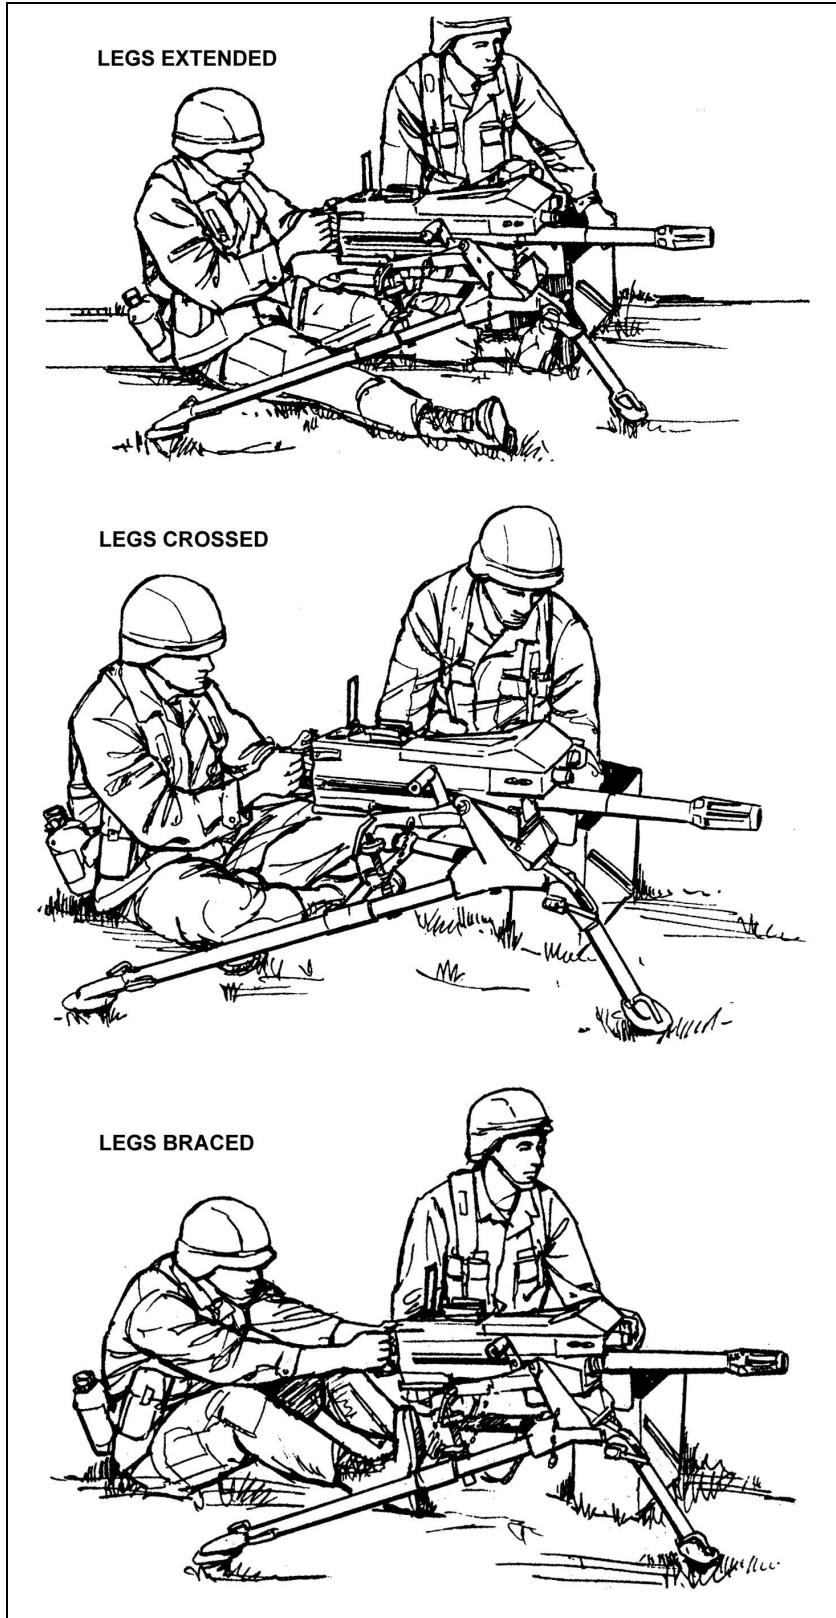

Figure 4-1. Seated firing positions.
a. **Sitting.** When the tripod is used in the low or high position, sit directly behind the gun between the trail legs of the tripod. Extend your legs under the tripod, cross them, or brace your feet on the tripod (Figure 4-1). Place your elbows on the inside of your thighs for support when crossing your legs or bracing your feet on the tripod.